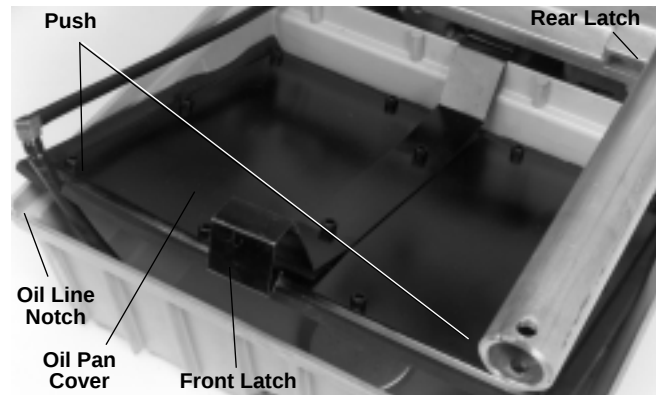

Figure 5B – No. 1460 Oil Pan Cover
4. Install oil pan cover with oil line positioned as in *Figure 5B*.